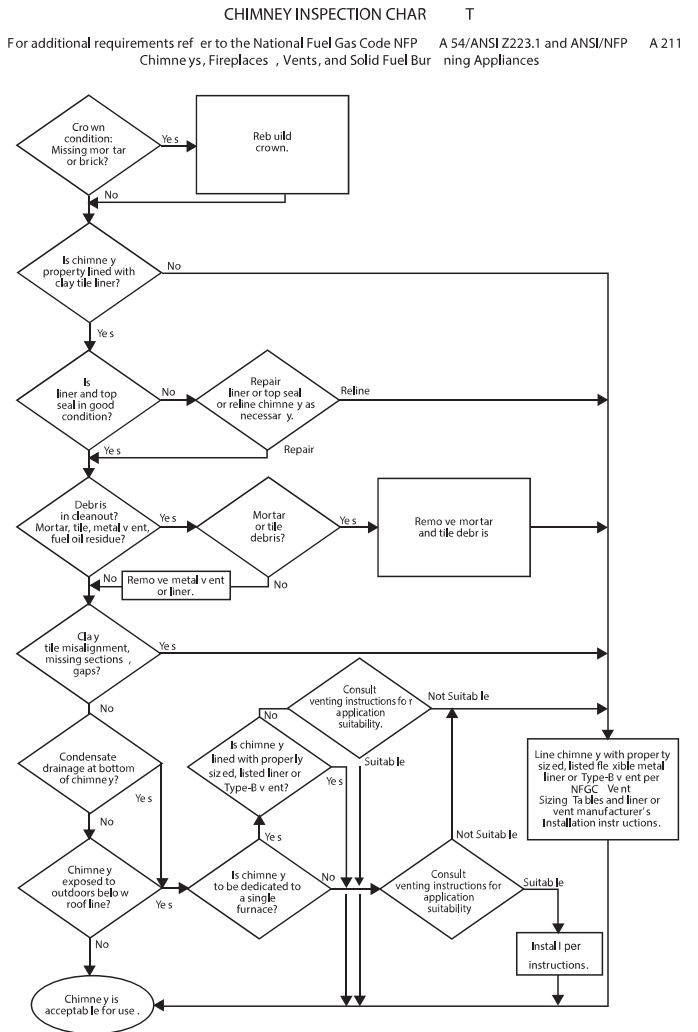

Fig. 33 – Chimney Inspection Chart
6. Do not vent this appliance into an unlined masonry chimney. Refer to Chimney Inspection Chart, Fig. 33.
If all of these conditions cannot be met, an alternative venting design shall be used, a listed chimney-lining system, or a Type-B common vent. Inspections before the sale and at the time of installation will determine the acceptability of the chimney or the need for repair and/or (re)lining. Refer to the Fig. 33 to perform a chimney inspection. If the inspection of a previously used tile-lined chimney: